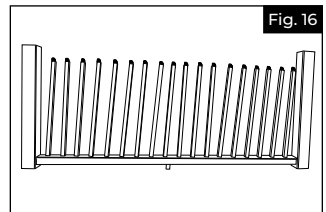

Fig. 16
- b. Lean balusters in the direction of the round edge of the baluster plug as shown in Figure 16.